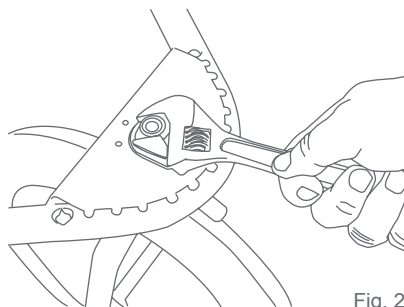

Fig. 23
- 23)** • Remove footrest to access nut. You can use a standard crescent wrench to tighten the nut (Fig. 23). **DO NOT OVER TIGHTEN** this can cause damage to the wheel housing.